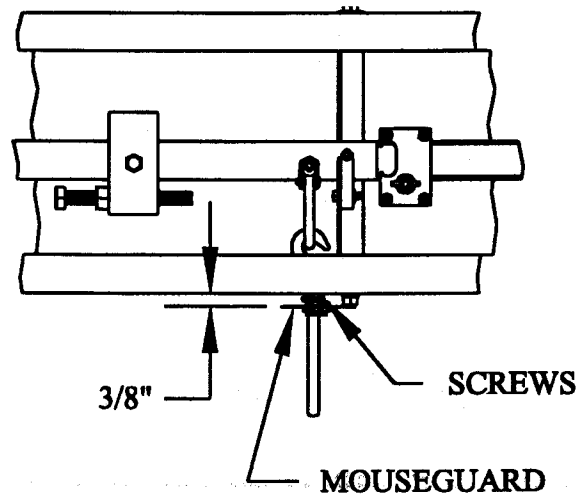

FIG. 20
STEP 20. The mouseguard on the steelyard rod should not touch the bottom of the beam box (move the beam up and down to check). There should always be some clearance, but not enough for a mouse to crawl through, about 3/8" For adjustment, loosen the two screws on the mouseguard and slide mouseguard up or down the steelyard rod as needed. Retighten the two screws securely. See Fig. 20.